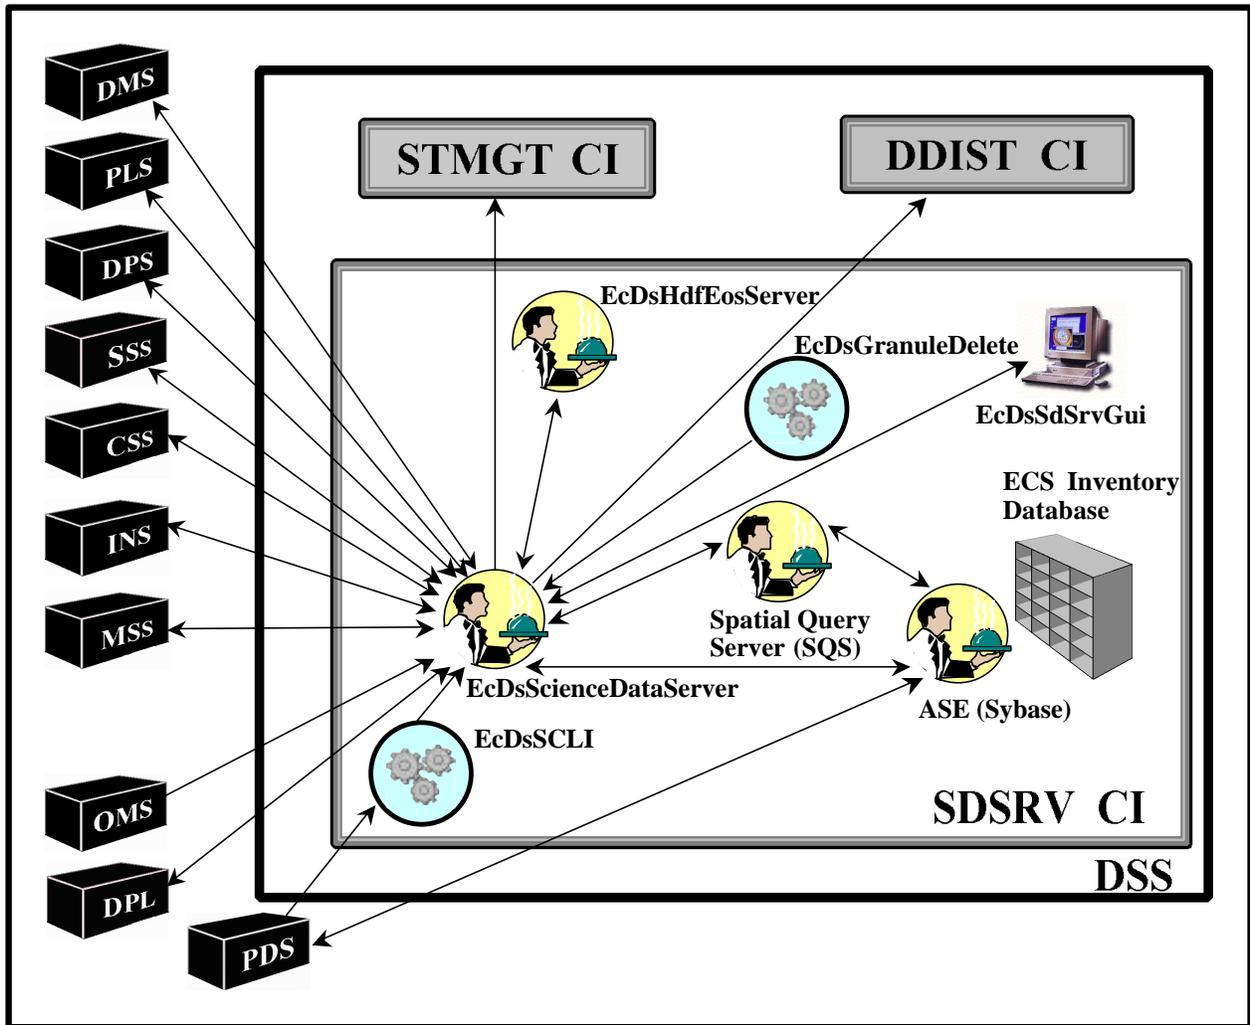

Figure 4. DSS Science Data Server (SDSRV) CSCI Architecture
- Science Data Server (Figure 4) is the part of the DSS that manages and provides user access to collections of non-document Earth Science data.